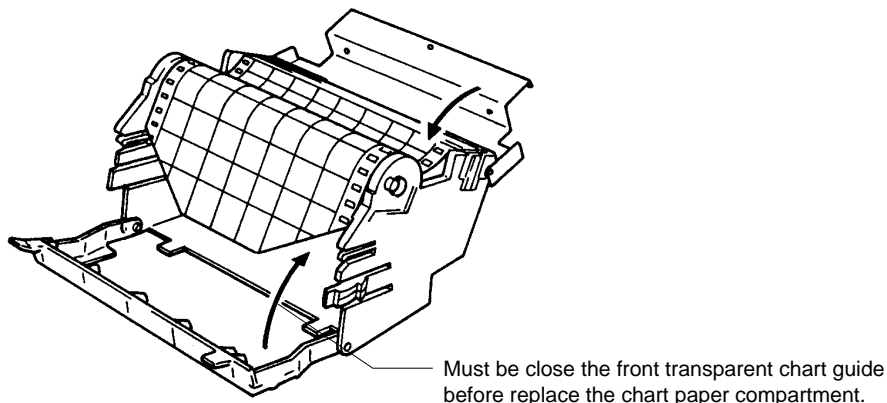

Figure 5.5
- 9 Place the front transparent chart guide back into position (see figure 5.5).